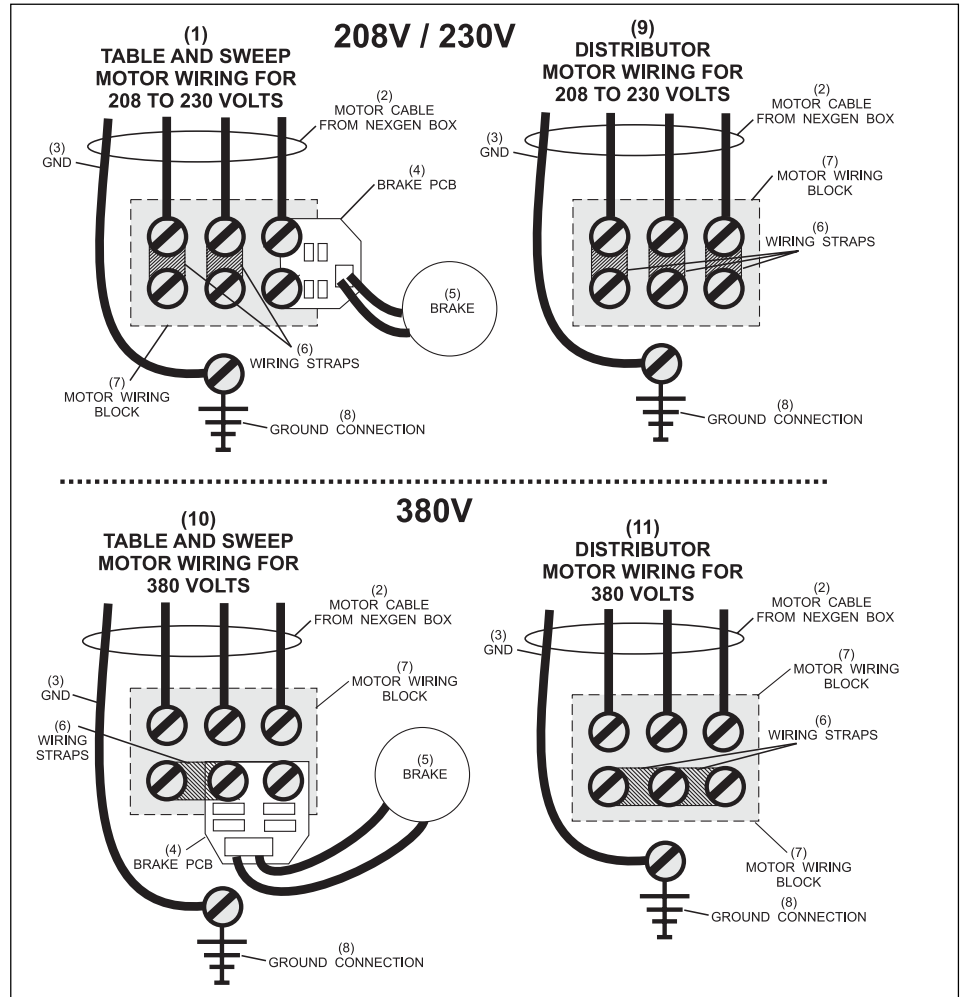

Figure 8-17. Table, Sweep and Distributor Motor Wiring.
7. Install the motor onto the pinsetter and wire it for proper voltage. Verify that the wiring straps and Brake PCB (if applicable) are properly attached. Refer to Figures 8-17 and 8-18.